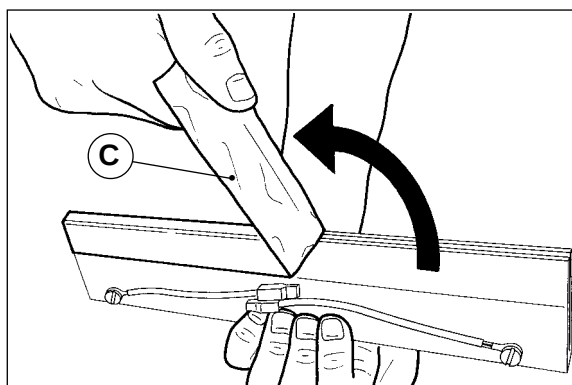

Fig. 2
- 3) Remove the sealing bar together with the connection wires (Fig. 2).
- 2) Detach the brown Teflon cover (C) (Fig. 2).